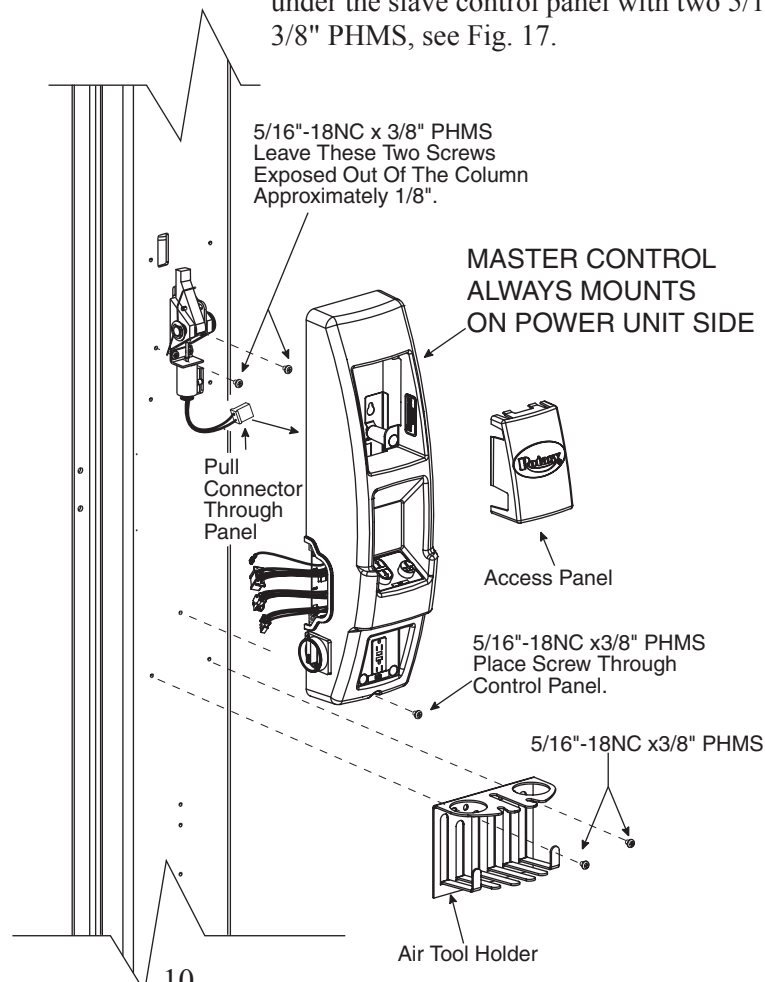

Fig. 16
- C) Installing Master Control Panel & Tool Holder: Remove access panel from the master control panel (master control panel is the one with disconnect and electrical receptacle), Fig. 16. Install two 5/16"-18NC x 3/8" PHMS screws in holes on each side of the locking latch (power unit side). Just get screws started in hole, do not tighten. Hang the master control panel over locking latch to column on the 5/16"-18NC x 3/8" PHMS screws and pull the locking latch solenoid wire through the panel, Fig. 16. Plug locking latch solenoid into master control panel. Install one 5/16"-18NC x 3/8" PHMS in bottom of master control panel. Tighten the upper two screws in top of panel and replace access panel. Install one of the air tool holders under the master control panel with two 5/16"-18NC x 3/8" PHMS, see Fig. 16. Connect the master cable, the motor cable, and the input power cable to the connectors on the side of the master control panel.